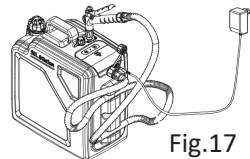

Fig.17
1. Insert DC circular plug of the power cable into the pump power port as shown in Fig 17